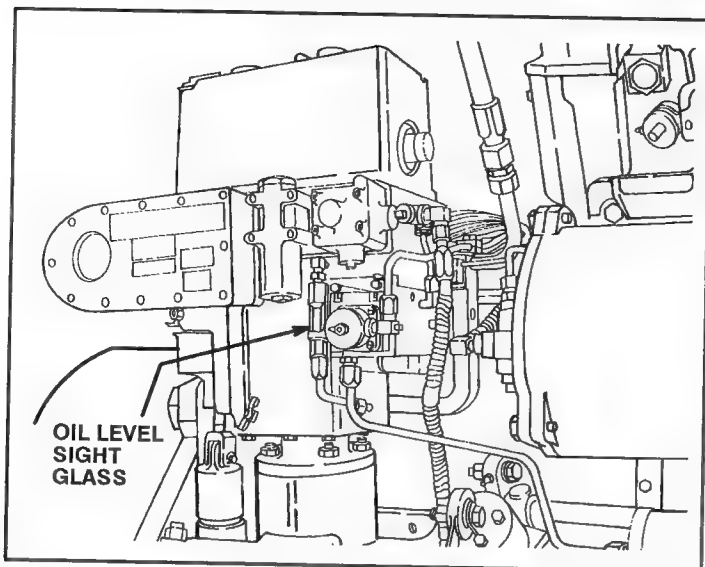

FIG. 31. ENGINE CONTROL GOVERNOR. E-32793A.
DIESEL ENGINE CONTROL GOVERNOR (Fig. 31)
5. Governor Oil–Level Sight Glass – Located on the left side of the engine near the traction alternator (Fig. 31). Oil level must be visible at mark on the sight glass when the engine is running at idle.